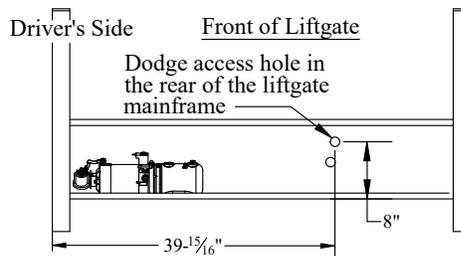

Figure 16: Spare tire access.
2. **Remove** the **Discard** black plastic plug from the mainframe in the location shown (Figure 16).